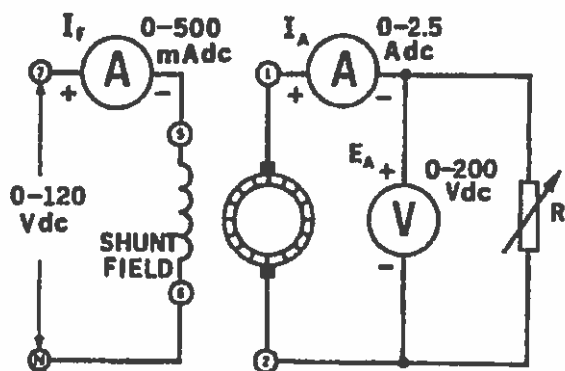

Figure 27-3.
- ☒ 9. Using your Resistive Load, connect the circuit shown in Figure 27-3. Place the resistance switches so that the total load resistance is 120 Ω .